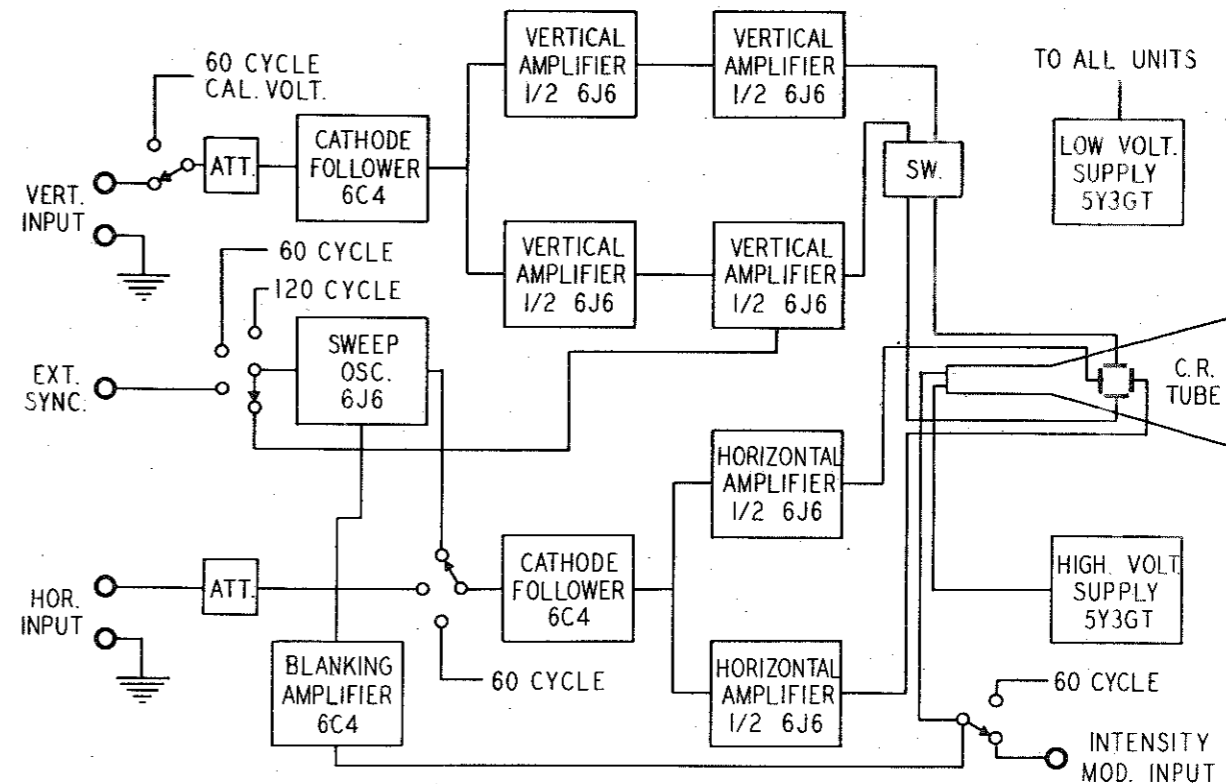

Figure 2
- A. Incorporated in the CRO-2 Cathode Ray Oscilloscope are a dual function (high sensitivity or wide band) vertical amplifier, horizontal amplifier, linear time base (sawtooth) oscillator, intensity modulation input, and power supply. These are shown in the block diagram (Fig. 2), and the various circuits will be analyzed individually so that you may better understand their many uses in this highly adaptable service instrument.